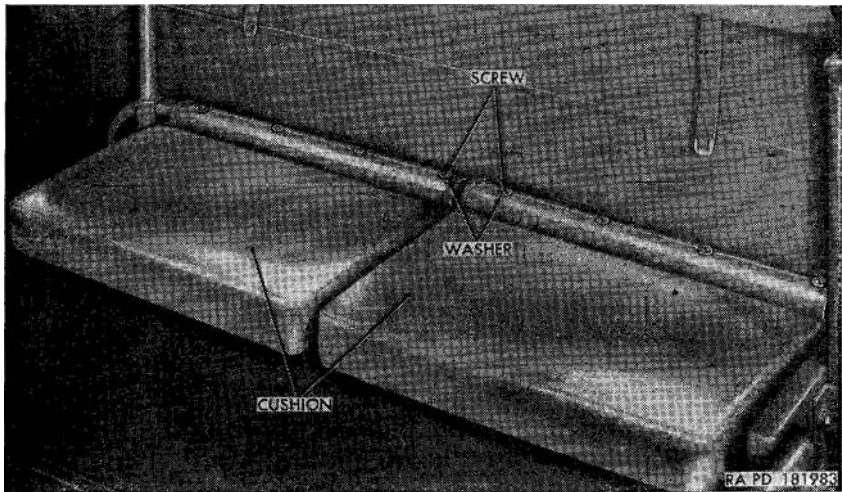

Figure 202. *Right wheel house Cushions—installed.*
e. *Wheel House Cushions* (fig. 202).
- (1) *Removal.* Remove the four oval-head tapping screws and finish washers securing each of the two right wheel house cushions to the top of the right wheel house and remove cushions from within vehicle. Remove the five oval-head tapping screws and finish washers securing each of the two left wheel house cushions to the top of the left wheel house and remove the cushions from the vehicle.
- (2) *Installation.* Position the two right wheel house cushions on the top of the right wheel house and secure each one with four No. 10 finish washers and No. 10 x  $\frac{1}{2}$  oval-head tapping screws. Position the two left wheel house cushions on top